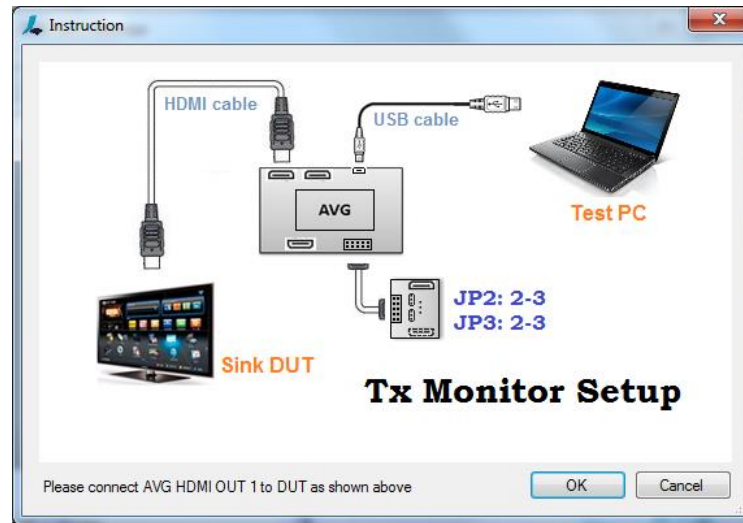

Figure 4.19. Output Port Monitor Instruction Dialog
- When you select the Tx Port radio button, a dialog pops up (Figure 4.19) asking you to connect the sink device to the test computer. After the connection is set up, click OK.